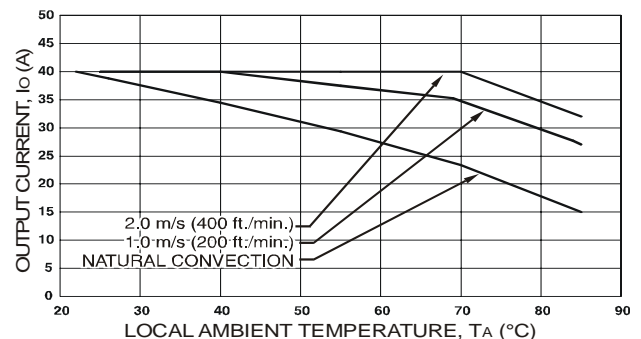

Figure 57. Output Power Derating for QRW040A0S1R0 (Vo = 1.0V) in Transverse Orientation with No Baseplate; Airflow direction from VIN (+) to VIN (-); VIN = 48V.
Increasing airflow over the module enhances the heat transfer via convection. Figures 57 through 64 shows the maximum current that can be delivered by the corresponding module without exceeding the maximum case temperature versus local ambient temperature (TA) for natural convection through 2 m/s (400 ft./min.).